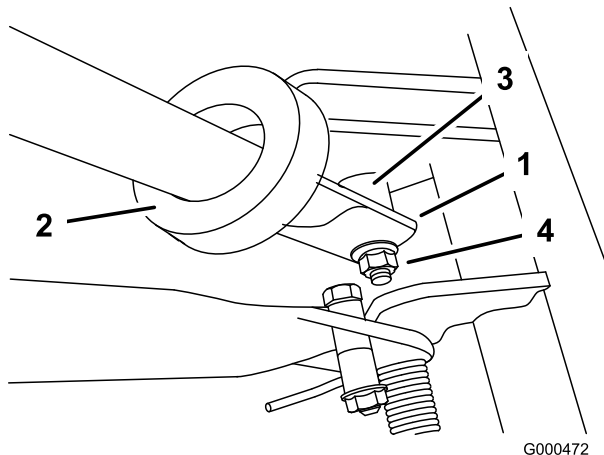

Figure 5
2. Insert the handle ends through the slots in the handle support arms (Figure 5).
3. Squeeze the handle ends inward and install them on the step of the pivot pin (Figure 5).